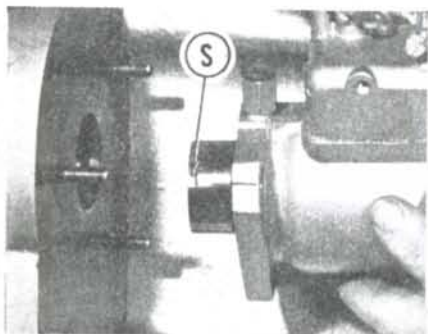
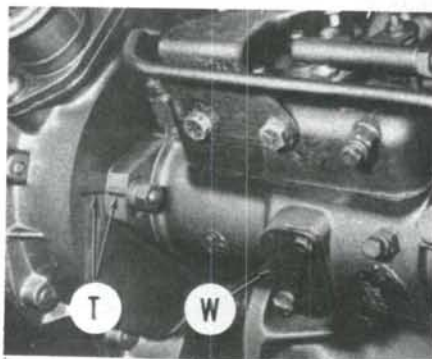
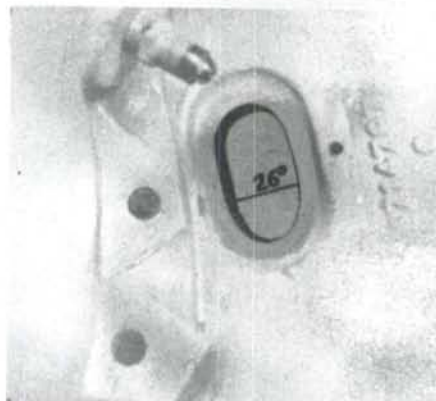

Fig. 133—Slot (S) in pump shaft must align with dowel in hub of injection pump drive gear when pump is installed.
Fig. 134—Timing marks (T) must be aligned when injection pump is installed. Pump internal timing marks are located behind timing window cover (W).
Fig. 135—The 26° BTDC mark on flywheel is used for timing injection for MF255 models equipped with AD4.203 engine.
The injection pump drive shaft contains a milled slot (S—Fig. 133) which engages a dowel pin in injection pump drive gear. The drive gear cannot become unmeshed from timing idler gear without removal of timing gear cover. Therefore, injection timing is not disturbed by removal and installation of injection pump.
Normal installation of injection pump can be accomplished without reference to crankshaft timing marks or internal marks on injection pump. Engage slot (S—Fig. 133) in pump drive shaft with dowel pin in pump drive gear, and align timing marks (T—Fig. 134) scribed on pump flange and timing gear housing. Tighten pump stud nuts to a 27 N·m (20 ft.-lbs.) torque.
**TIMING.** To check pump timing for Model MF255 equipped with AD4.203 engine, proceed as follows: Shut off the fuel supply. Remove timing window cover (W—Fig. 134) from side of injection pump. Remove flywheel timing plug from left side of transmission adapter housing. Turn crankshaft in normal direction of rotation until the letter "B" timing mark on injection pump rotor is aligned with the straight edge of internal snap ring as shown in Fig. 136. At this point, the 26° BTDC timing mark on flywheel (Fig. 135)
To check pump timing on all other models, proceed as follows: Shut off fuel and remove pump timing window (W—Fig. 134) from side of injection pump. Remove flywheel timing plug from left side of transmission adapter plate. Turn crankshaft in normal direction of rotation until the letter "C" timing marks on injection pump rotor is aligned with the straight edge of internal snap ring as shown in Fig. 138. At this point, the 23° BTDC mark on flywheel should be aligned with timing window indicator as shown in Fig. 137 for MF255, MF265 and
On all models, the mounting holes in pump mounting flange are elongated to permit minor timing adjustments. If pump housing is moved, be sure to scribe appropriate timing marks (T—Fig. 134) on pump flange and timing gear housing. If pump timing marks cannot be properly aligned by shifting pump on mounting studs, the timing gear cover must be removed and gears retimed as outlined in paragraph 88.